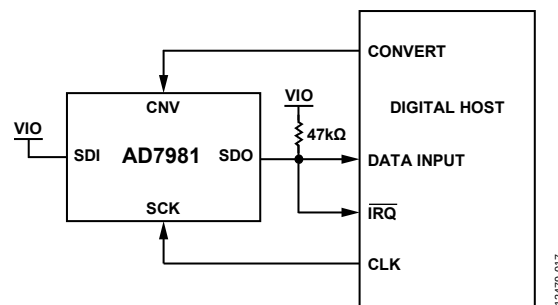
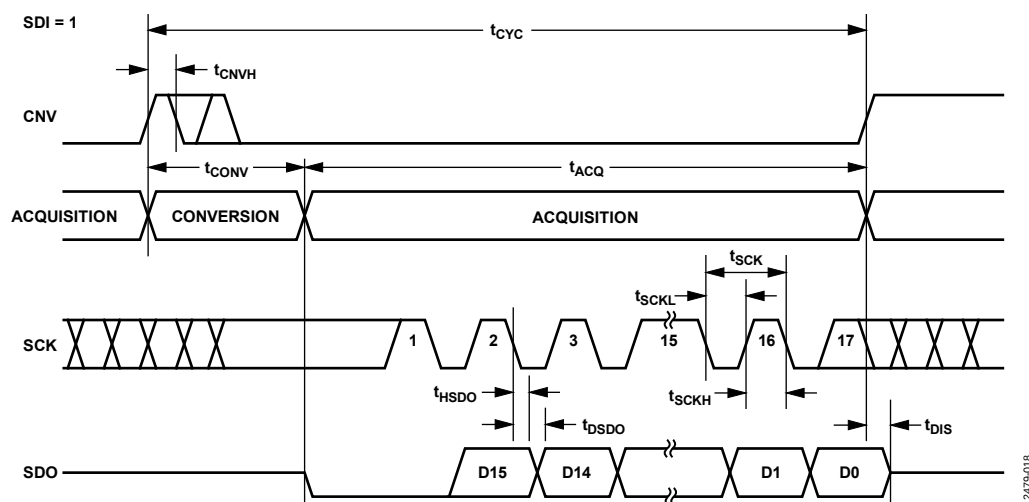
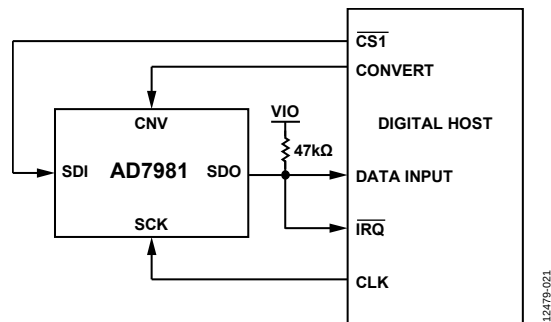
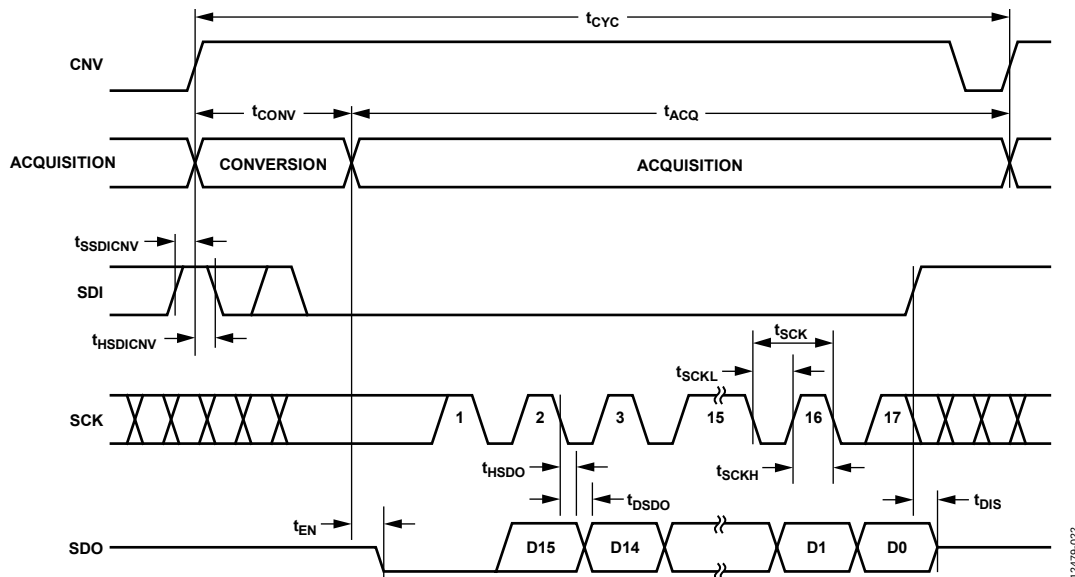

Figure 44. 3-Wire $\overline{\text{CS}}$ Mode with Busy Indicator Connection Diagram (SDI High)
Figure 45. 3-Wire $\overline{\text{CS}}$ Mode with Busy Indicator Serial Interface Timing (SDI High)
Figure 48. 4-Wire $\overline{\text{CS}}$ Mode with Busy Indicator Connection Diagram
Figure 49. 4-Wire $\overline{\text{CS}}$ Mode with Busy Indicator Serial Interface Timing
- In CS mode if CNV or SDI is low when the ADC conversion ends (see Figure 45 and Figure 49, respectively).
The 3-wire $\overline{\text{CS}}$ mode with a busy indicator is typically used when a single AD7981 is connected to an SPI-compatible digital host having an interrupt input. The connection diagram is shown in Figure 44, and the corresponding timing is given in Figure 45.
The connection diagram is shown in Figure 48, and the corresponding timing is given in Figure 49.